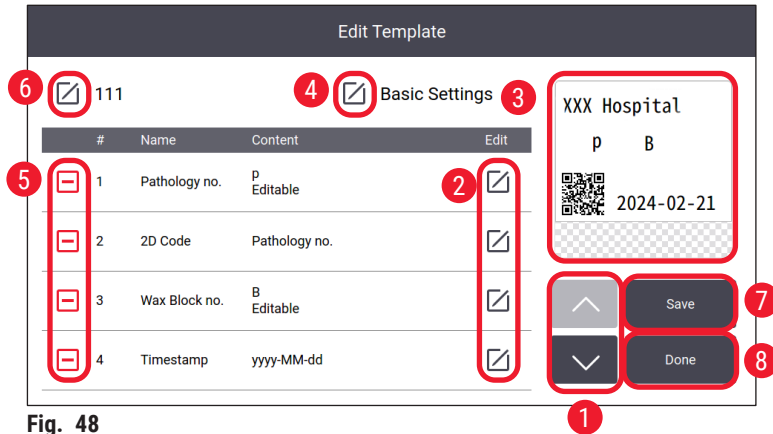

Fig. 48
- 3. Select the template to be edited, and tap **Edit** (→ Fig. 47-2). The **Edit Template** screen (→ Fig. 48) is displayed.
4. The **Edit Template** screen is displayed (→ Fig. 48). Follow the steps in the Editing templates (→ p. 47 – Editing templates) if you need further modifications.